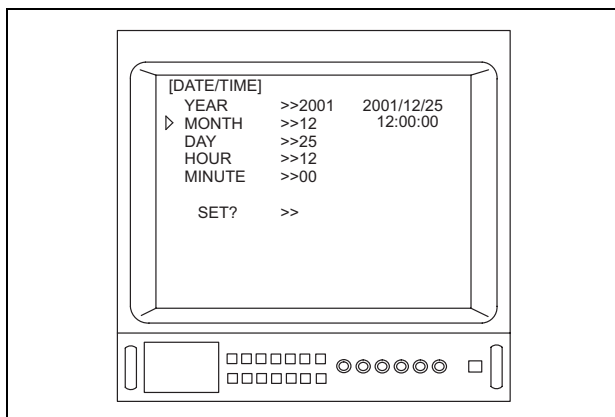

Figure 5.9
4. Depress the menu switches “◀” or “▶”, or the “↑/↓/←/→” key on the keyboard to move the arrow “▷” to an item that you would like to set up (for example, “MONTH”) (see Figure 5.9).
Depending upon the OTV-S7V's settings, the menus shown in Figures 5.9, 5.10, 5.11, 5.12 and/or 5.13 may appear different from those displayed on the video monitor.
7. Depress the menu switch “■” or “◀”, or the “F1” key or “Enter” key on the keyboard quickly to enter the setting. Then, the menu shown in Figure 5.9 is displayed.